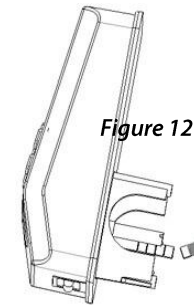

Figure 12
2. Check whether the **Locking Bar** is too long. If yes, take the **Front panel Assembly** off and cut away the excess part of the **Locking Bar** (see **Method for Cutting Locking Bar**). As shown in **Figure 12**.